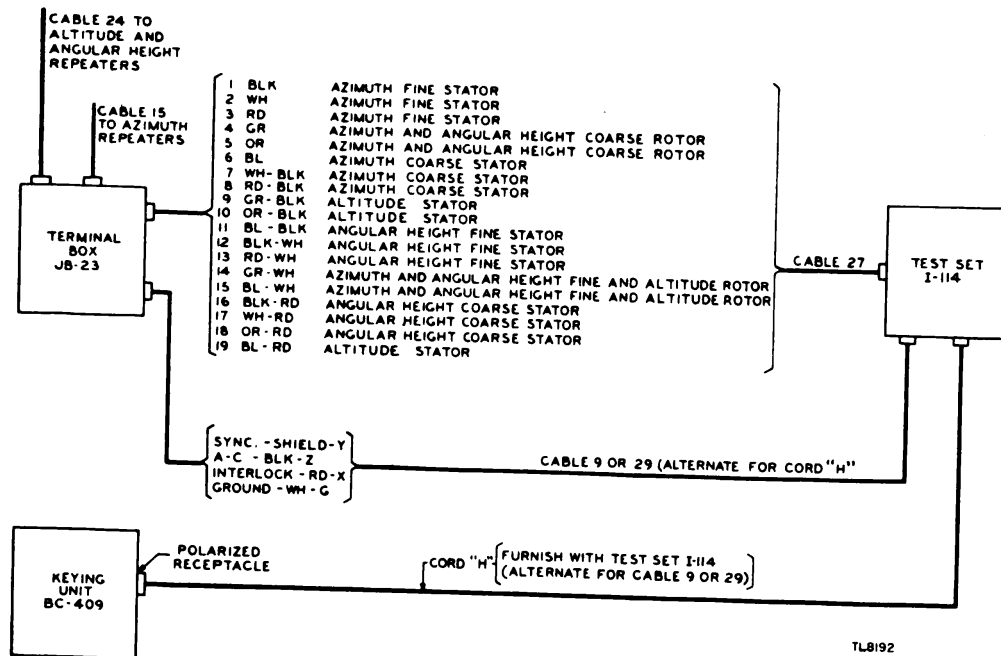

Figure 20. Test Set I-114, connections.
b. Locating and Connecting. Figure 20 is a functional diagram showing the location of the test set in the test circuit. Locate the test set near an appliance outlet, such as the outlet on the keyer, and close enough to the trailer mount to permit easy communication between the man making
the test and the man operating the controls on the trailer. Connect the test set as shown in figure 20. Alternating current may be connected to the test set either by cable 9, Test Cord CD-520, or test cord H. When the test set is connected, one of its a-c receptacles will not be used. Avoid short-circuiting the live terminals in the unused male receptacle. The setting of the switches on the test set select the repeater, and stator windings of the repeater under test, as shown in the table below.
(2) **TO CHECK FOR GROUNDED CABLE LEADS.** Connect alternating current to the test set (fig. 20). Cable 27 need not be connected. Set the voltmeter switch in the VAC position, and operate the toggle switch on the test set. Touch the insulated clip of cord J to the lead in question. If the voltmeter does not deflect, the lead is not grounded. If the voltmeter deflects, note the reading. Move the voltmeter to the VM position and note the voltmeter reading. If the two readings are the same, the lead is grounded through little or no resistance. If the first reading is less than the second, the lead is grounded through a resistance path.
(3) TO CHECK FOR CROSSED CABLE LEADS.
(a) Connect alternating current to the test set (fig. 20). Cable 27 need not be connected. Set the voltmeter switch in the VAC position, and operate the toggle switch. Disconnect both ends of the lead under test.